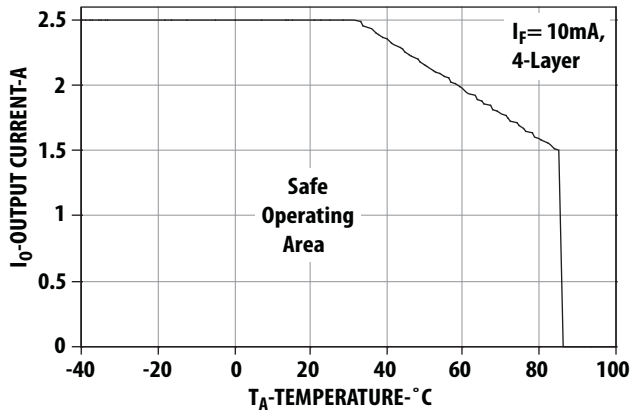

Figure 1. Maximum Output Current rating vs Ambient Temperature (AC/DC Connection)
- For derating, refer to Figure 1 and 2.